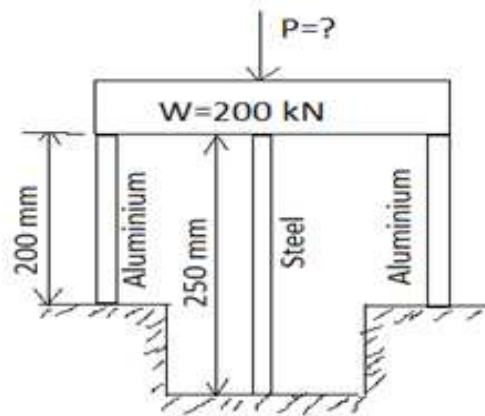

Fig. Q 3(a)
- 3 a. Three pillars two of Aluminium and one of steel support a rigid plat-form of 200kN as shown in Fig. Q 3(a) if area of each Aluminium pillar is 1000 mm2 and that of steel pillar is 800 mm2, find the stresses developed in each pillar;. Take  $E_a= 1 \times 10^5$  N/mm2 and  $E_s=2 \times 10^5$  N/mm2 what additional load P can it take if working stresses are 65 N/mm2 in aluminium and 150 N/mm2 in steel.